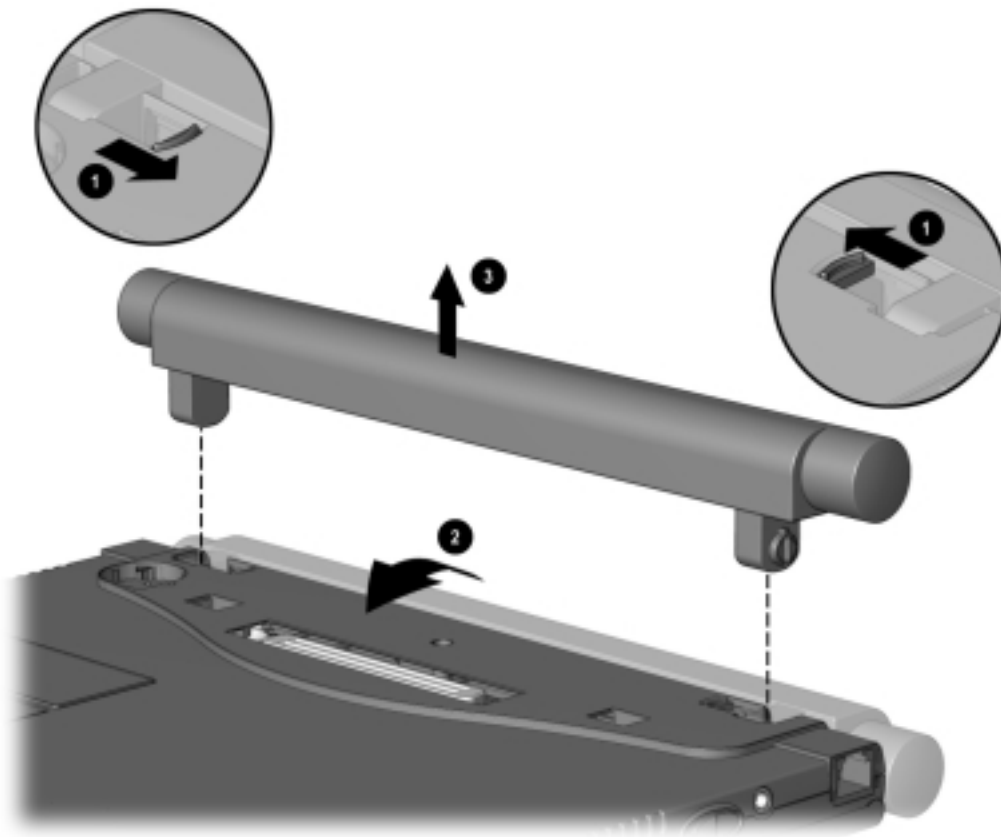

Figure 5-5. Removing the Battery Pack
4. Slide in the two battery latches toward each other **❶** (Figure 5-5).
5. Rotate the battery pack 90 degrees toward the computer **❷**, and lift up the battery pack from the computer **❸**.